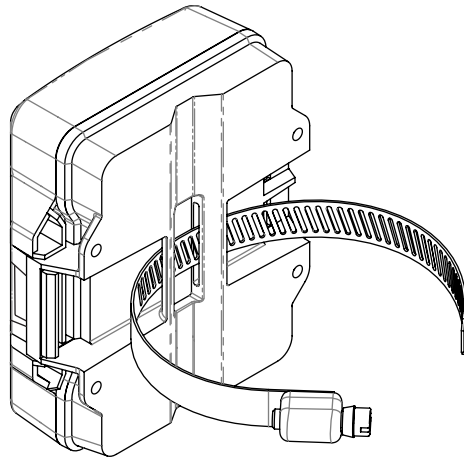

Figure 3 - Pole mount installation
2. Slide hose clamp or tie wrap through two slots on back of the unit (see Figure 3).